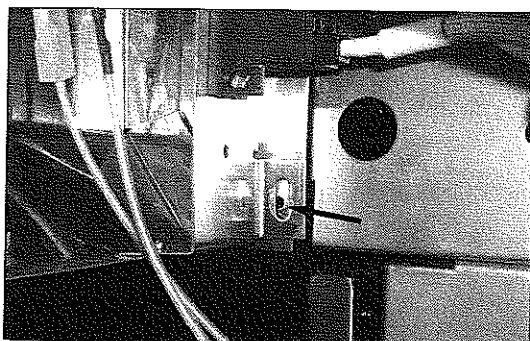

Fig 8
8. Using a 1/4" socket remove the front self tapping screw holding the right side shelf on the right side of the grill. (See Fig. 8)
39. Reinstall the screw removed in step 10 to secure the front face of the right side shelf in position. (See Fig. 8 on Page 3)